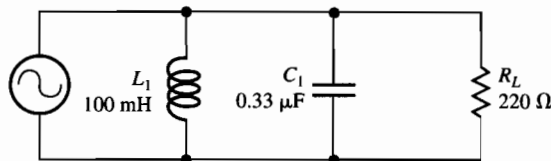

Figure C-14-1
14. Observe the parallel resonant circuit shown in Figure C-14-1. Assume the inductor has a winding resistance of 25 Ω . At resonance, calculate: